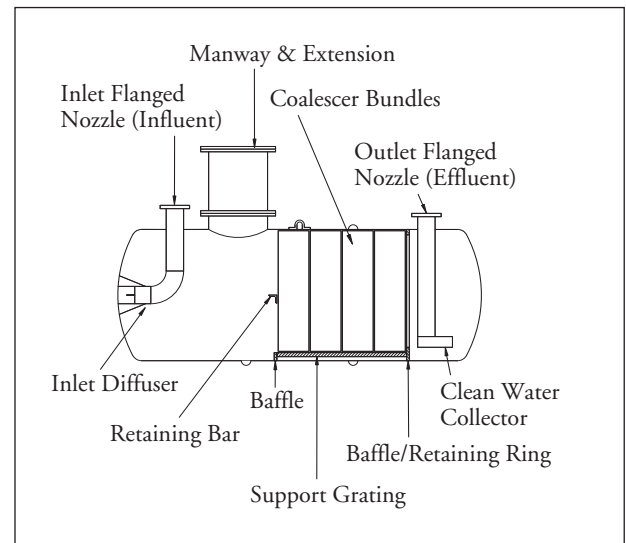
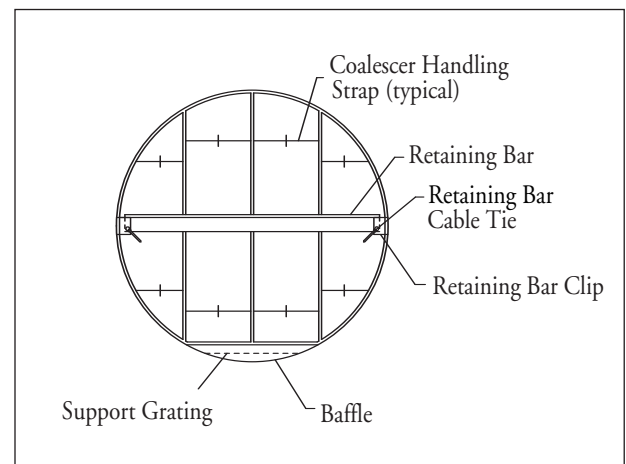

FIGURE 15-1
FIGURE 15-2
15.1.1. To remove a coalescer in a 4-foot-diameter OWS, follow this procedure (See FIGURE 15-1 and FIGURE 15-2):